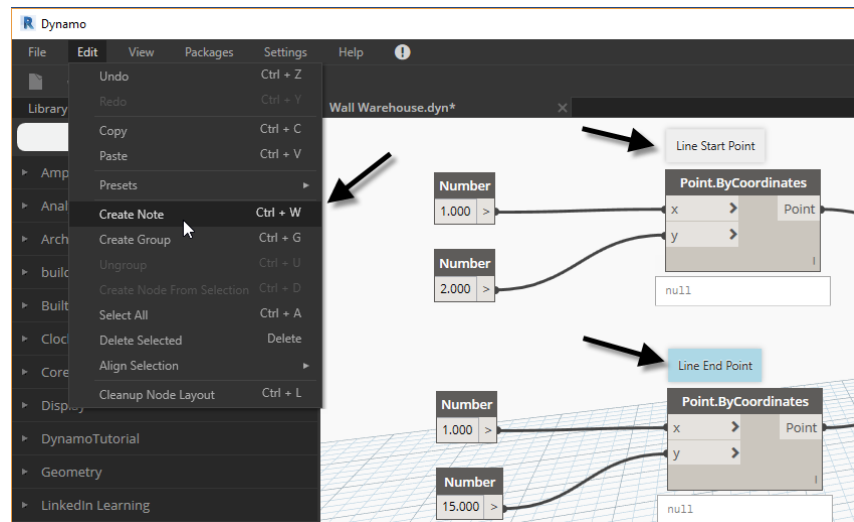

Figure 40
9. Create a second note, position above the other *Point.ByCoordinates* node, double-click it and change it to read: **Line End Point** (See Figure 40).